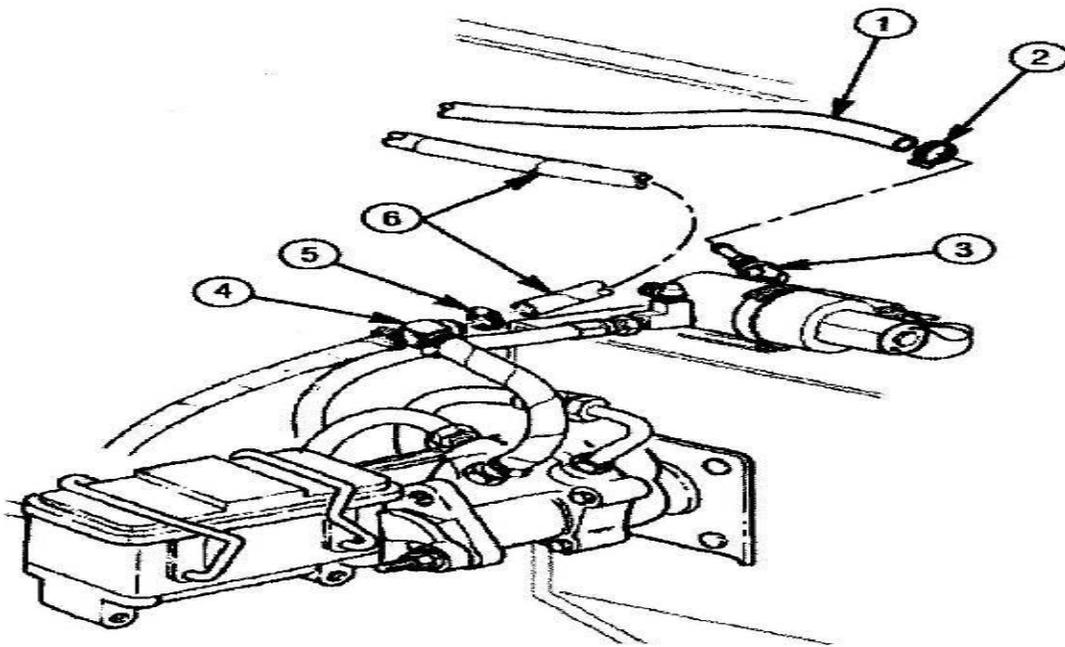

Figure 64
ee. Installation of Power Steering Fluid Lines. Refer to TM 9-2320-387-24-2, Chapter 8, Task Para 8-25, Page 8-68 and **Figure 64** contained in these instructions.
(1) Complete installation of power steering fluid return hoses as follows:
(a) Remove hose (1) and clamp (2) from elbow (3) as shown in **Figure 64**.
(b) Cut off loose end of hose (1) as required, to ensure there are no kinks, and reinstall hose (1) and clamp (2) on elbow (3) as shown in **Figure 64**. Tighten clamp (2).
(c) Remove hose (6) and clamp (5) from tee (4) as shown in **Figure 64**.
(d) Cut off loose end of hose (6) as required, to ensure there are no kinks, and reinstall hose (6) and clamp (5) on tee (4) as shown in **Figure 64**. Tighten clamp (5).